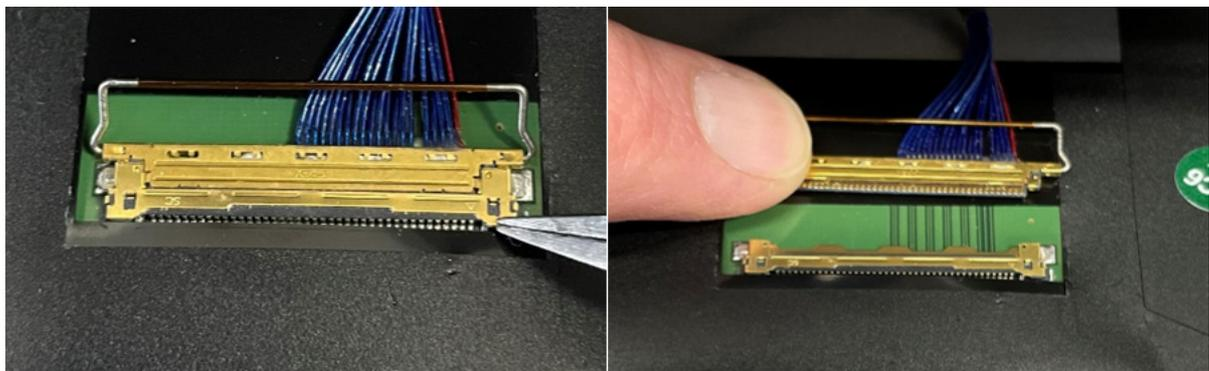

Figure 4-11. Display Cable Removal
8. Release the locking connector by slowly lifting the metal flap upwards to disconnect the display cable. See Figure 4-11.